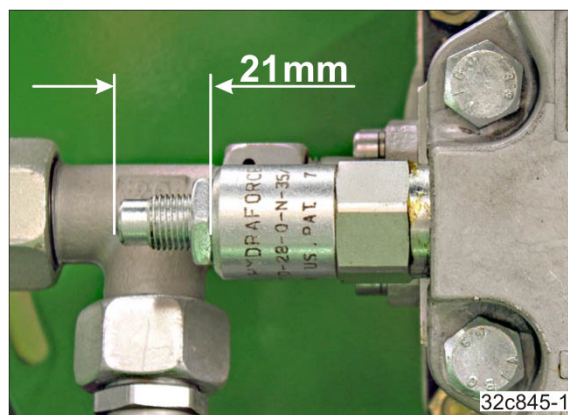

Fig. 172
2. Adjust the pressure relief valve to the factory-set dimension "21 mm" (Fig. 172).